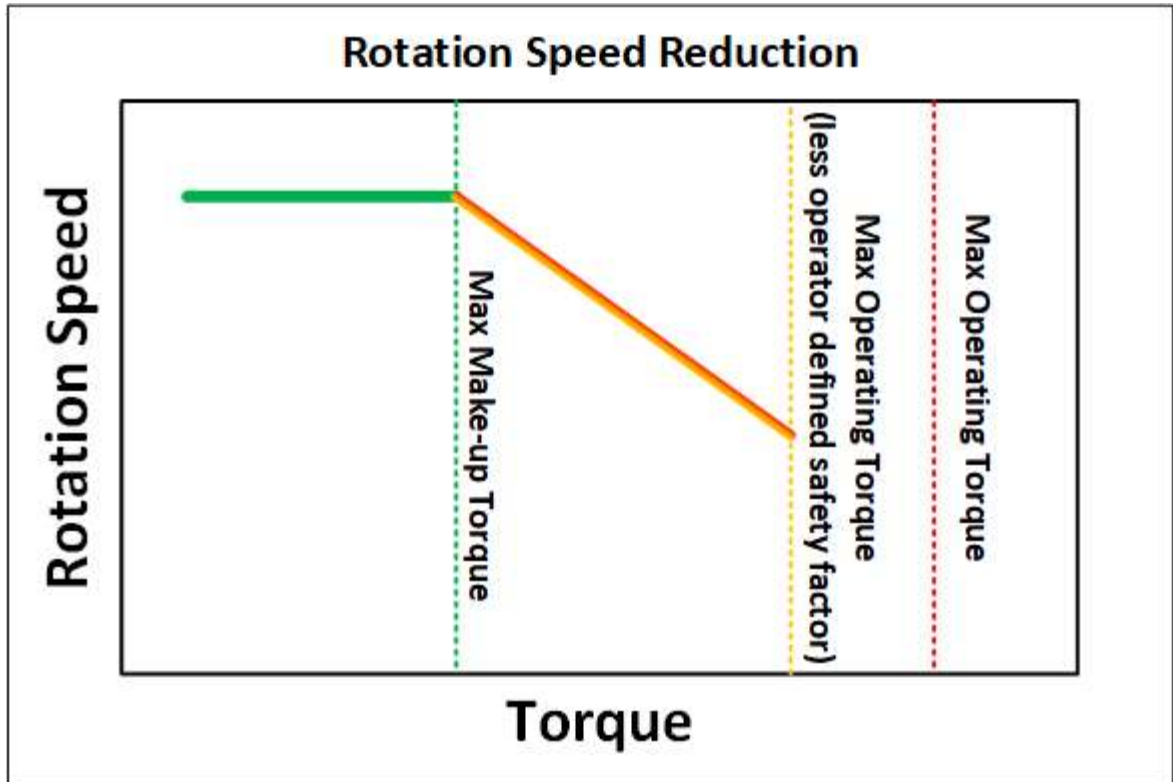

Figure 1, Rotation limit based on running torque
- When increasing rotation torque past the maximum make-up torque, the maximum rotational speed should be lowered as per Figure 1